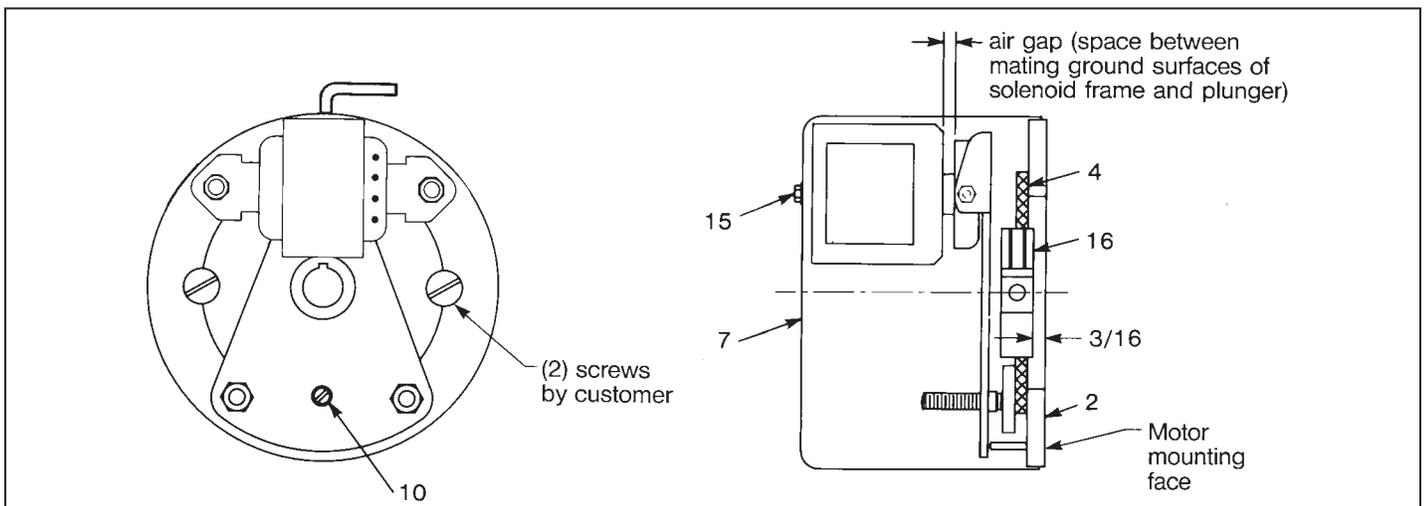

Figure 6
1. Normal friction disc wear will cause solenoid air gap to become larger from the original set 1/8" air gap. An increase in stopping time and a slight reduction in torque will consequently occur. See Figure 6.
3. To decrease air gap, turn the wear adjusting screw (10) clockwise until an air gap of 1/8" minimum is attained. To increase gap, turn screw counterclockwise.